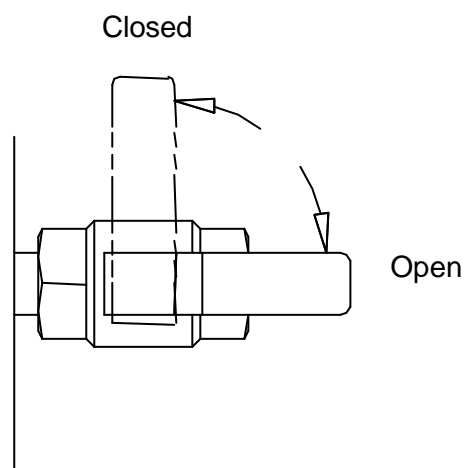

Figure 8 Ball valve
- IV. Check that the water valve is closed. See figure 8: Ball valve